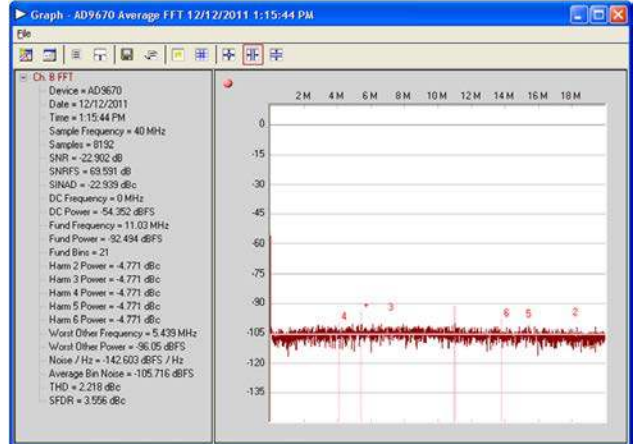

Figure 13. Average FFT Canvas with the Digital High-Pass Filter Disabled
- Disabling the digital high-pass filter increases the noise floor shape at low frequencies and results in a flat noise floor (see Figure 13).